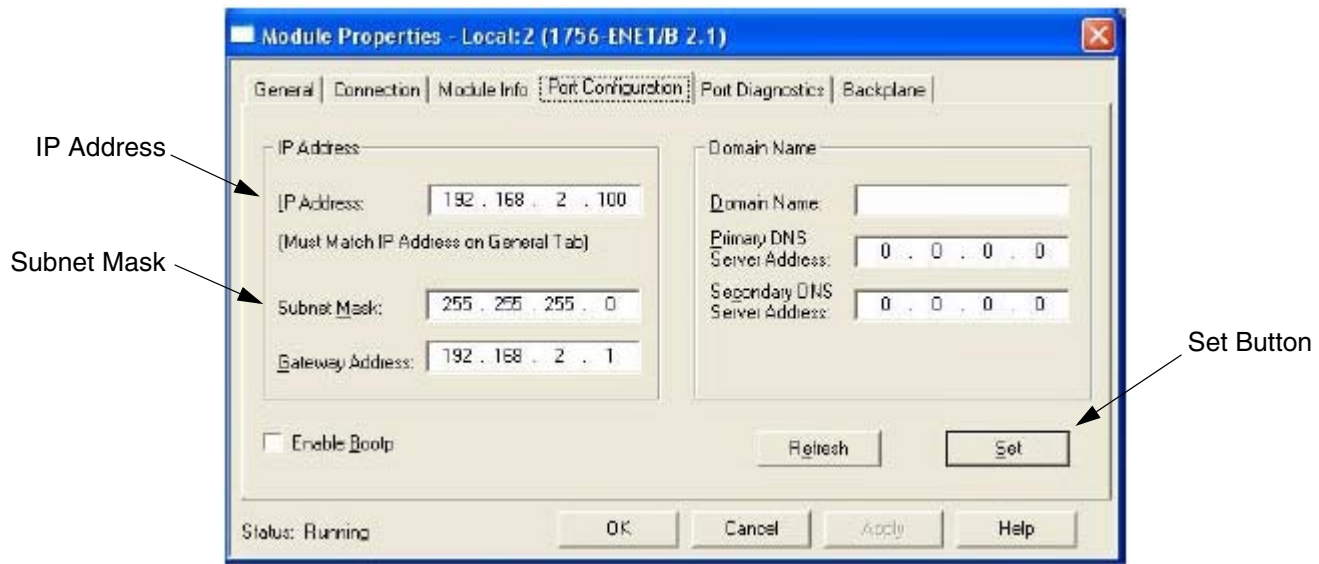

FIG. 70. Port Configuration Window
- h. Select the Port Configuration Tab from the Module Properties window. See FIG. 70.